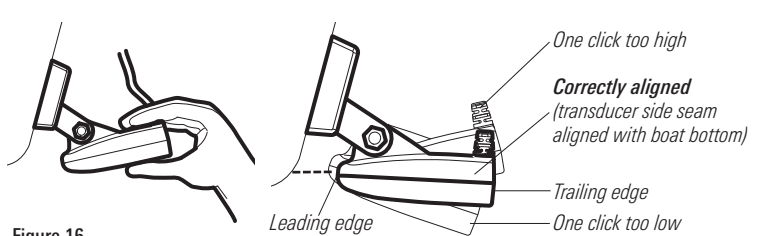

Figure 16
7. Adjust the initial angle of the transducer from back to front by rotating the transducer until the side seam on the transducer is almost parallel with the bottom of the boat, one click at a time in either direction (Figure 16).